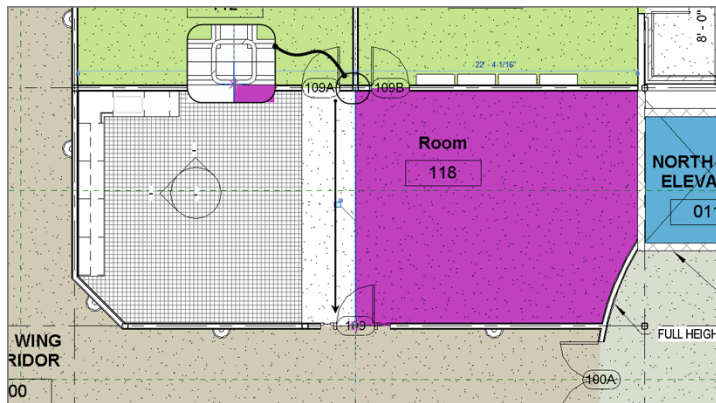

FIGURE 15.23: Adding the room-separation line
6. Pick the edge of the flooring, as shown in Figure 15.23.